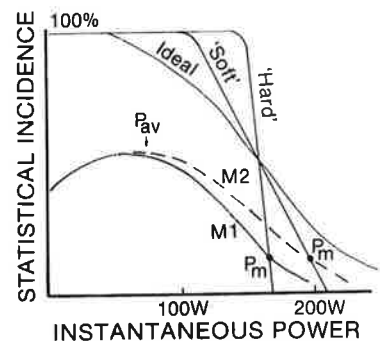

Fig. 4-1. Statistical Incidence of Demand vs. Instantaneous Power.
4.1.2 Main Supplies. Electrically, the power supply is the simplest part of the amplifier, but its design presents one of the most difficult tasks, since it must take into account a number of complex factors. Simply put, the designer's problem is to allow the greatest average movement of power to the load at lowest cost under the statistical conditions defined by typical musical program material. Very roughly speaking, cost determines a maximum average power level that can be accommodated by the power supply and output stage together. However, once this level has been set (arbitrarily, alas, for one never has too much power), the behavior of the supply must be fitted to the demands imposed by its intended use. Fig. 4-1 illustrates the behavior of three conceivable power supplies, all of roughly equal total capability, over varying ranges of steady and intermittent load conditions. The well-regulated, 'hard' supply can deliver (in this example) about 150 watts continuously, but power levels slightly higher than this it can provide only at infrequent intervals. The loosely-regulated, 'soft' supply, by contrast, delivers a lower power level under continuous (100 percent) demand, but at low usage rates (such as, for example, the 20 ms pulse every half second prescribed by the IHF Dynamic Headroom test, a usage rate of 4 percent) it can deliver more than twice this continuous power level.
The power demands made by musical program sources are rarely continuous, but rather have a statistical structure. That is, if we break a typical segment of program into 20 ms segments and measure the average power in each segment, we will obtain a statistical distribution of power levels such as shown by the curve M1 in Fig. 4-1. No one power level is called for 100 percent of the time; instead, a middle range of levels is required fairly often, and higher levels are demanded less and less frequently. Theoretically, the power curve is asymptotic to the power axis, but (especially for recorded material) it is reasonable to identify a minimum level of statistical demand, say 4 percent (as in the Dynamic Headroom test) to be accommodated, and associate with it a corresponding maximum required power level, P_m . The power supply's task may then be defined as that of providing the full range of power levels up to P_m at (at least) the usage rates given by the incidence-power level curve. It must be able to supply the maximum value, P_m , but only a few percent of the time, and lower power levels at increasing usage rates.